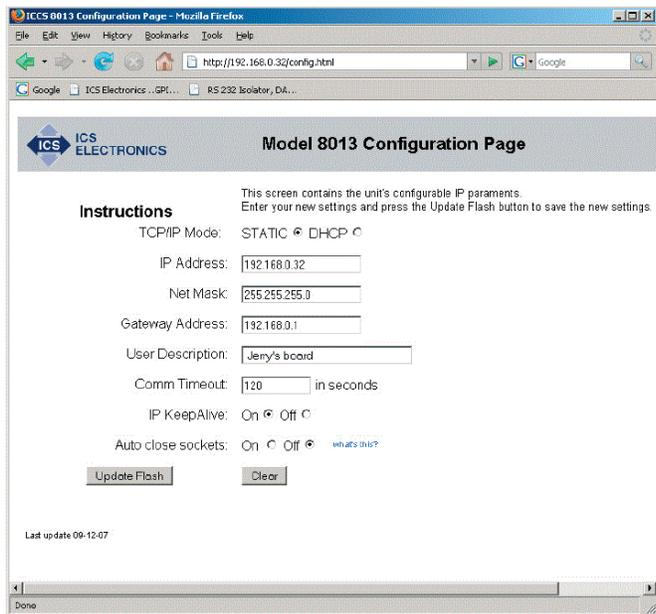

Figure 4-4 8003 Configuration Page
6. If you want to change any of the settings, press the ‘Update Configuration’ button. A Configuration Page similar to the one shown in Figure 4-4 should appear in your browser.